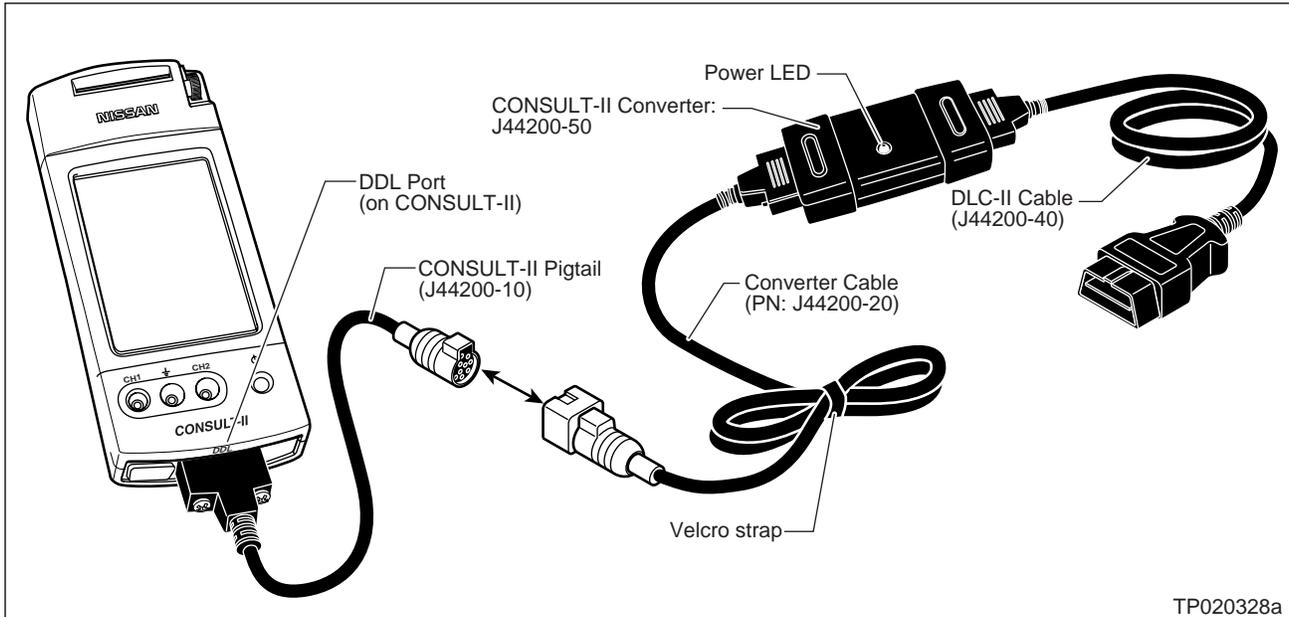

Figure 10
14. Connect CONSULT-II to the vehicle using the DLC-II cable with black Converter Box (see Figure 10 on next page).
- Make sure all other DLC-II cable connections shown in Figure 10 are connected properly.
- Nissan requires the use of essential tools shown in Figure 10 when performing ECM reprogramming.
- d. The CONSULT-II Converter (J44200-50 / black box) is not working correctly (see Figure 10 on page 14).